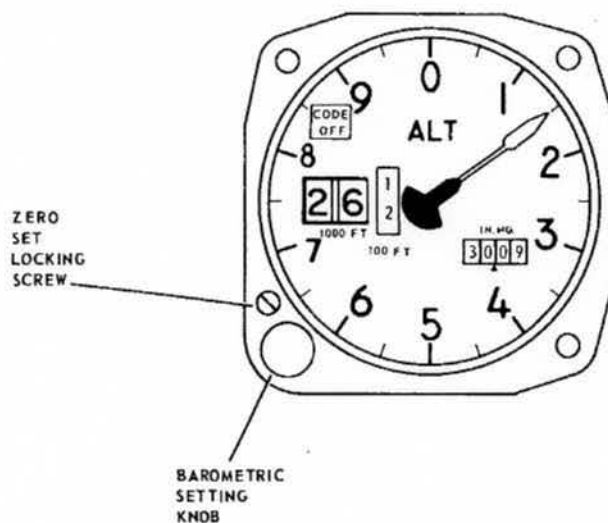

Figure 1-25. Altimeter-Encoder AAU-21/A or AAU-32/A
One altimeter-encoder (figure 1-25) is installed in the pilot's instrument panel. The altimeter-encoder combines a conventional barometric type altimeter, possessing a counter-drum-pointer display, with an altitude reporting encoder in one self-contained unit. The 10,000- and 1,000-foot counters and the 100-foot drum provide a readout of altitude in units of 100 feet, from -1,000 to 38,000 feet. The pointer repeats the indications of the 100-foot drum, and serves both as a vernier for the drum and as a quick indication of the rate and sense of altitude changes. Two methods may be used to read indicated altitude on the counter-drum-pointer altimeter: (1) read the counter-drum window, without reference to the pointer as a readout in thousands and hundreds of feet; or (2), thousands of feet on the two counter indicators, without referring to the drum, and then add the 100-foot pointer indication. The self-contained servo driven encoder provides altitude encoded in 100-foot units for automatic transmission when the AN/APX-99 transponder is interrogated in the altitude mode. The digital output to ground radar is referenced to 29.92 in Hg and not the pilot-selected altimeter setting. In case of power loss to the encoder servo system, a CODE OFF flag appears automatically in a window in the upper left portion of the display, indicating that altitude